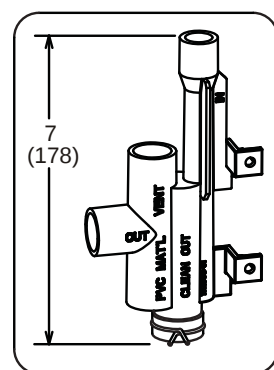

Figure 48. TRAP / DRAIN ASSEMBLY USING 1/2" PVC OR 3/4" PVC
3. Install the cap over the clean out opening at the base of the trap. Secure with clamp. See Figure 47 or Figure 48.
4. Install drain trap using appropriate PVC fittings, glue all joints. Glue the provided drain trap as shown in Figure 47 or Figure 48. Route the condensate line to an open drain. Condensate line must maintain a 1/4" downward slope from the furnace to the drain.